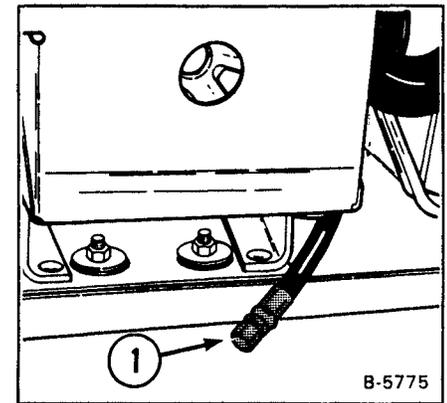
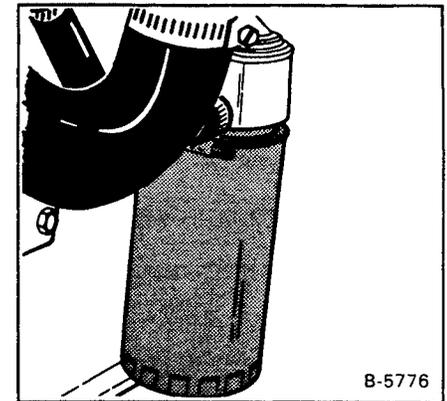

Fig. 1-17 Engine Oil Drain
Fig. 1-18 Engine Oil Filter
- (1) Operate the engine for about 15 minutes. Stop the engine and open the rear door.
- (2) Remove the drain cap (Fig. 1-17, Item 1).
- (3) Remove the oil filter (Fig. 1-18).
- (4) Clean the filter housing surface. Put clean grease on the gasket of the new filter. Install the filter and hand tighten only.
- (5) Install the drain cap (Fig. 1-17).